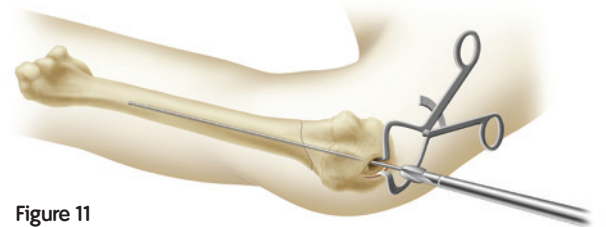

Figure 11
1. Begin with the 6.0mm Fixed End Cutting Reamer (71118220 to 71118230) and insert it over the 2.0mm Graduated Ball Tip Guide Rod (Figure 11).